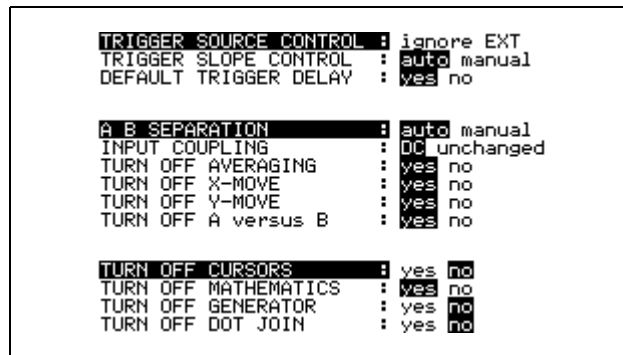

Figure 6-14. Continuous Auto Set Window
1. From the User Options menu, press  (MORE OPTIONS) and use   to highlight AUTO SET. Press  to open the window (see Figure 6-14).